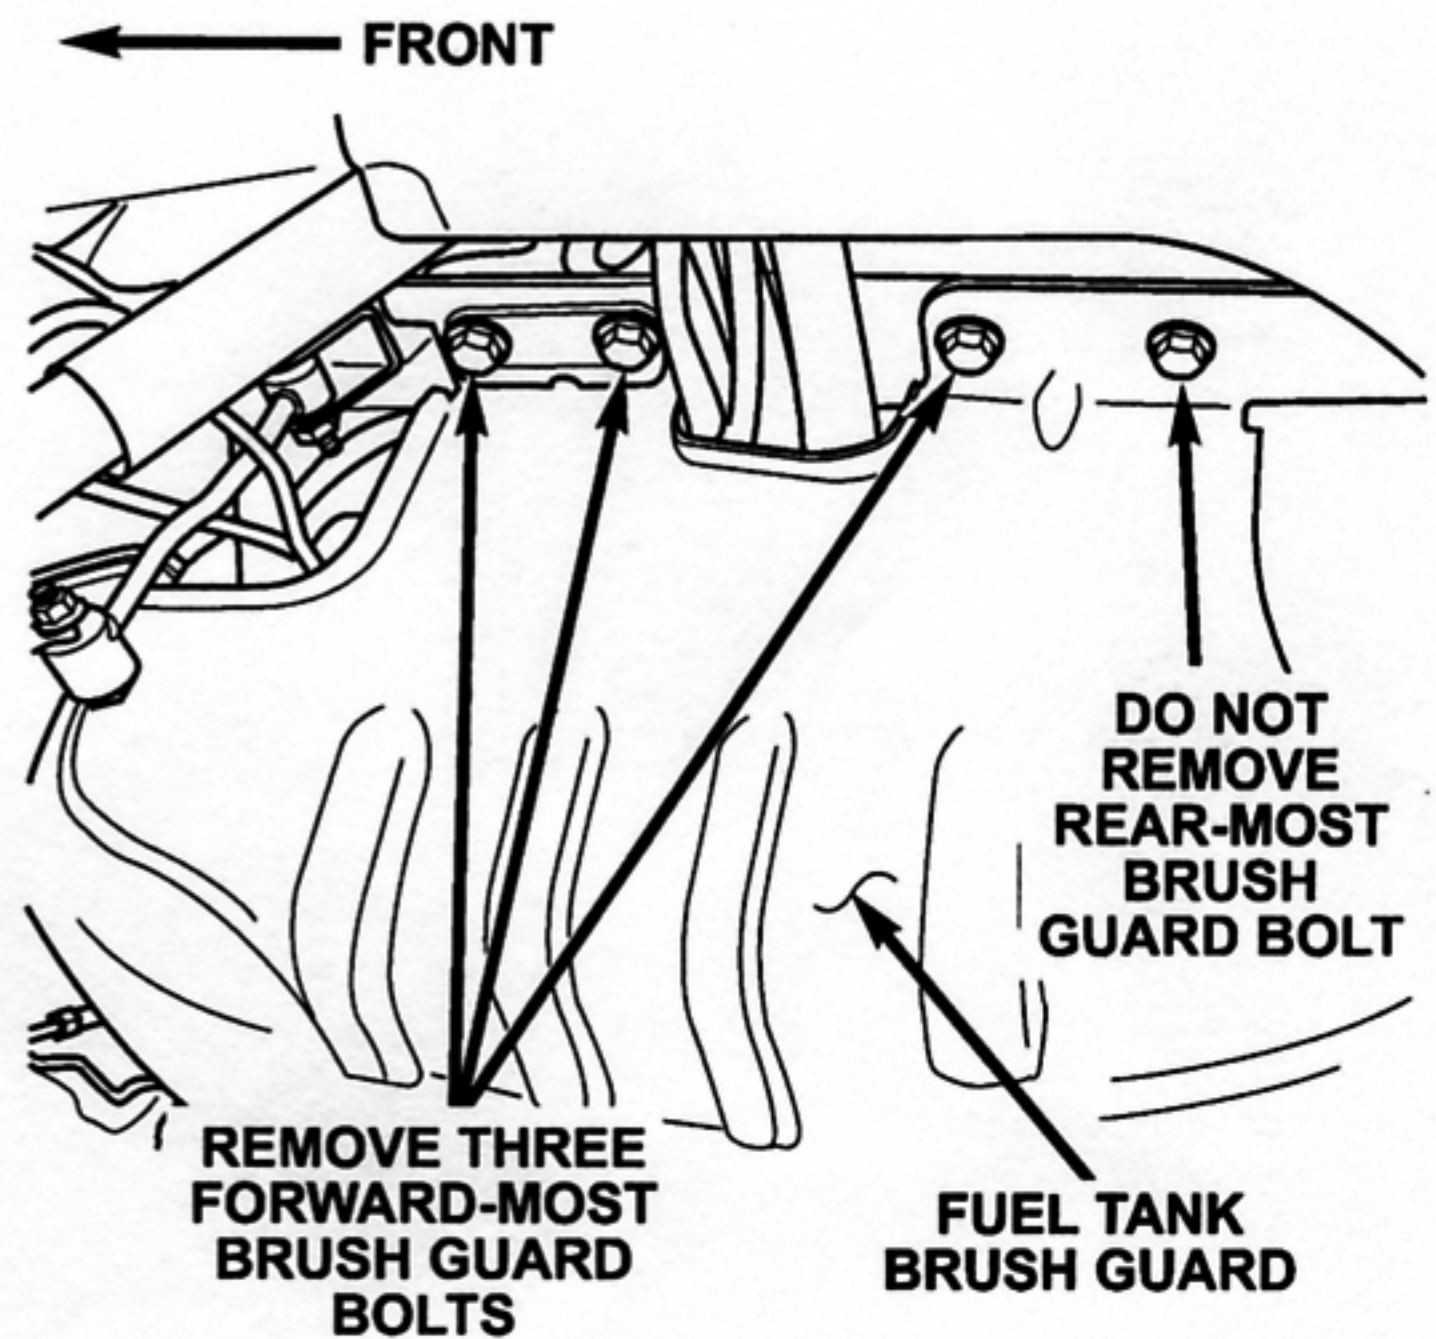

Figure 4
7. Remove the three (3) forward-most LEFT SIDE brush guard/trailer hitch (if equipped) mounting bolts (Figure 4). **DO NOT remove the rear left brush guard/trailer hitch mounting bolt.**
8. Loosen, but do not remove, the remaining four (4) brush guard bolts (one left side and three right side).
9. **For vehicles equipped with a trailer hitch,** loosen but do not remove, the two (2) rear-most trailer hitch bolts.